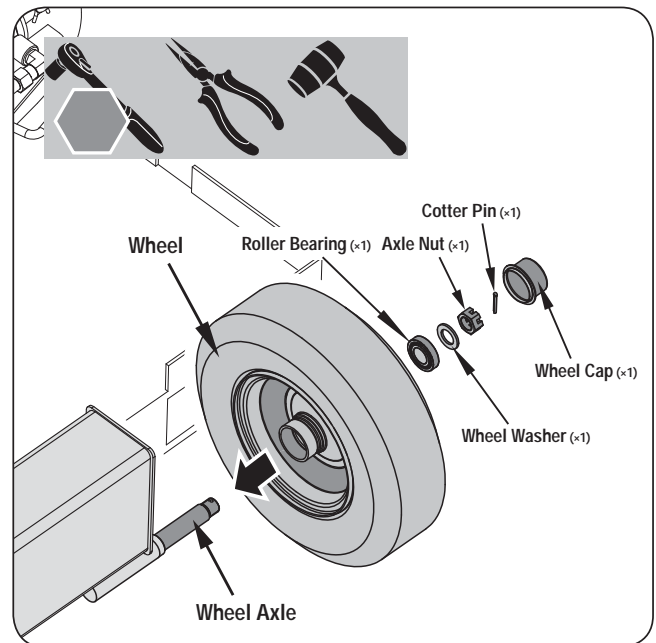

Figure 3f
- Follow the same procedure to assemble the other wheel (follow steps 4 – 8 under wheel assembly.) (See **Figure 3f**)